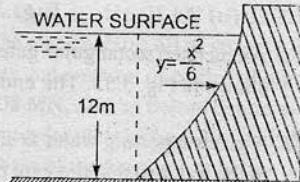

Fig. 3.61
22. Find the magnitude and direction of the resultant water pressure acting on a curved face of a dam which is shaped according to the relation $y = \frac{x^2}{6}$ as shown in Fig. 3.61. The height